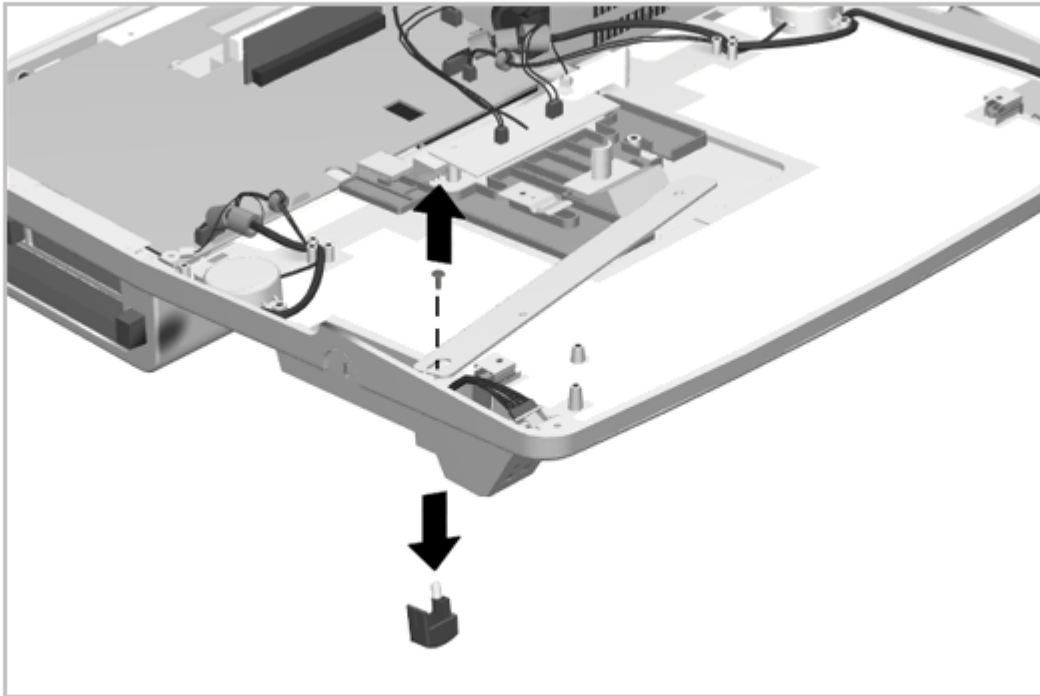

Figure 6-35. Removing the Docking Lever
3. Remove the screw and washer that connects the docking bar to the slide block and docking lever (Figure 6-35).